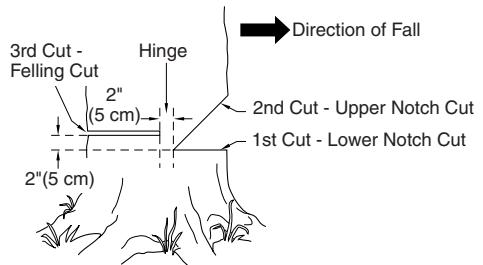

Figure 12 - Felling A Tree
A properly placed felling notch will determine direction tree will fall. Place felling notch on side of tree in direction you want tree to fall (see Figure 12). Follow directions below to create a felling notch.
1. Make lower notch cut as close to ground as possible. Hold saw so guide bar is horizontal. Cut 1/3 the diameter of tree trunk (see Figure 12). *Note:* Always make this horizontal lower notch cut first. If you make this cut second, tree can pinch chain or guide bar.
*Example:* If lower notch cut is eight inches deep, start upper notch cut eight inches above it. Cut downward at 45° angle. The upper notch cut should meet end of lower notch cut (see Figure 12).
1. Make felling cut two inches higher than lower notch cut and on opposite side of tree (see Figure 12). Keep felling cut parallel to lower notch cut.
- #### **⚠ WARNING:** Do not cut all the way through tree. Leave about two inches of tree diameter uncut directly behind felling notch (see Figure 12). This uncut portion acts as a hinge. The hinge helps keep tree from twisting and falling in wrong direction.